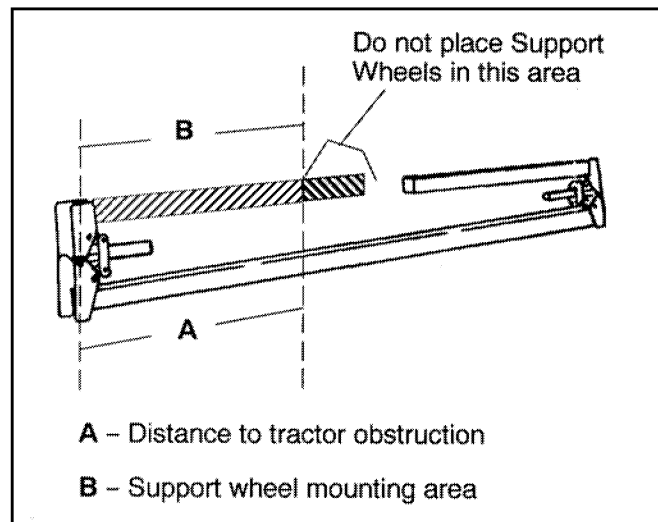

Figure 36 Measuring for Support Wheels
Measure Support Wheel Location (Figure 36)
3. DO NOT position support wheels beyond this point, as shown in shaded area in Figure 36.